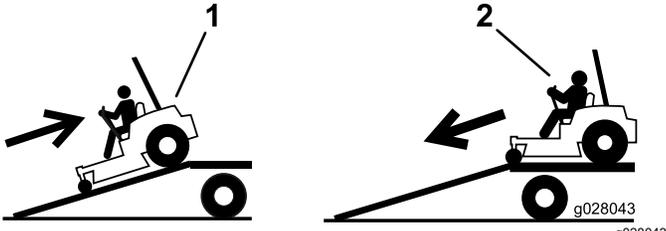

Figure 43
4. Back the machine up the ramp (Figure 43).
2. Drive the machine forward down the ramp (Figure 43).